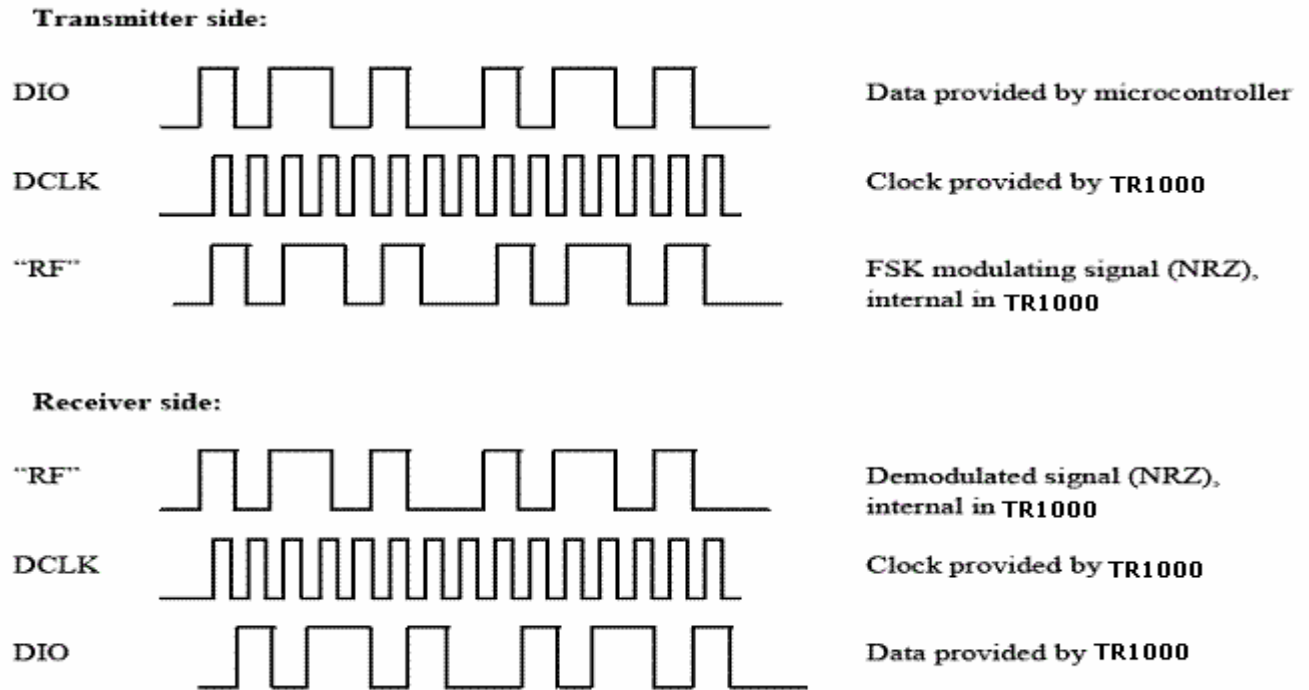

Figure 7. Synchronous NRZ mode
*Synchronous NRZ mode.* In transmit mode **TR1000** provides the data clock at DCLK, and DIO is used as data input. Data is clocked into **TR1000** at the rising edge of DCLK. The data is modulated at RF without encoding. **TR1000** can be configured for the data rates 0.6, 1.2, 2.4, 4.8, 9.6, 19.2, 38.4 or 76.8 kbit/s. For 38.4 and 76.8 kbit/s a crystal frequency of 14.7456 MHz must be used. In receive mode **TR1000** does the synchronisation and provides received data clock at DCLK and data at DIO. The data should be clocked into the interfacing circuit at the rising edge of DCLK. See Figure 7.